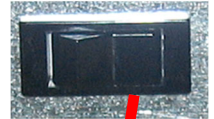

Figure 32
45. LANGUAGE is displayed. Press the ► (right arrow) button eleven (11) times to scroll to WASTE.
50. Completely power cycle the fryer using the hidden reset momentary rocker switch (see Figure 32) behind the right control box over the JIB in electric (see Figure 33). **HOLD THE SWITCH FOR 60 SECONDS, ENSURING THE MIB BOARD HAS POWERED FULLY DOWN.**
52. With the controller OFF, test the dispose function by pressing and holding the FILTER button until FILTER MENU is displayed for three (3) seconds changing to FILL VAT FROM PAN.
83. Press the **X (2)** button under the display.
86. Completely power cycle the fryer using the hidden reset momentary rocker switch (see Figure 32) behind the right control box over the JIB in electric (see Figure 33). **HOLD THE SWITCH FOR 15 SECONDS ENSURING THE MIB BOARD HAS POWERED FULLY DOWN.**
88. With the controller **OFF**, test the dispose function by pressing and holding the associated FILTER button until **FILTER MENU** is displayed for three (3) seconds changing to **MAINT FILTER**.
98. Completely power cycle the fryer using the hidden reset momentary rocker switch (see Figure 32) behind the right control box over the JIB in electric (see Figure 33). **HOLD THE SWITCH FOR 15 SECONDS ENSURING THE MIB BOARD HAS POWERED FULLY DOWN.**